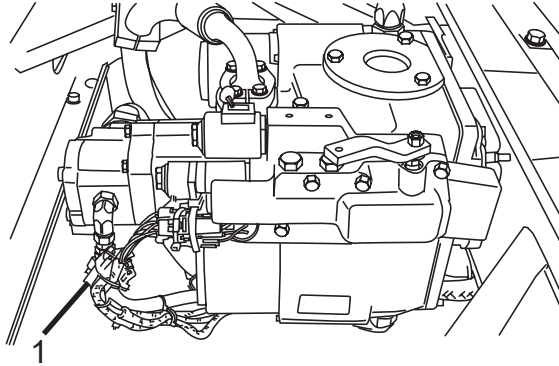

Figure 9
4. **For Traditional Controls with RE (Remote Electric Controls) Only:** Connect the main electrical connector (Figure 9, Item 1) to the charge/discharge coils. Proceed to Step 8.